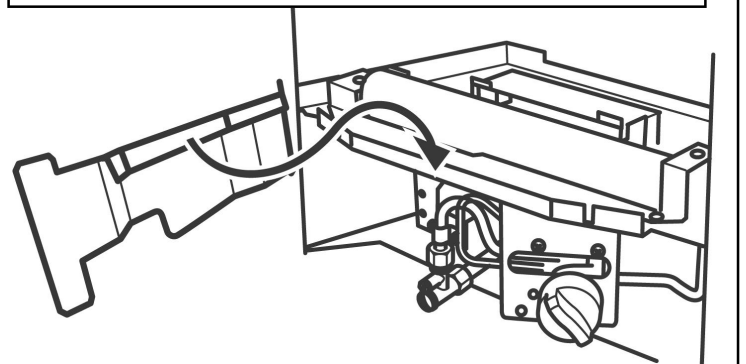

Figure 26. Fitting the burner baffle
4. Fit the burner baffle to the front flanges of the burner. To do this, place the baffle against the front flanges of the burner and lower into position. The return edges on the rear of the baffle should slot over the front flanges of the burner (See figure 26).
2. Fit the burner baffle to the front flanges of the burner. To do this, place the baffle against the front flanges of the burner and lower into position. The return edges on the rear of the baffle should slot over the front flanges of the burner (See figure 26).
front flanges of the burner. To do this, place the baffle against the front flanges of the burner and lower into position. The return edges on the rear of the baffle should slot over the front flanges of the burner (See figure 26).